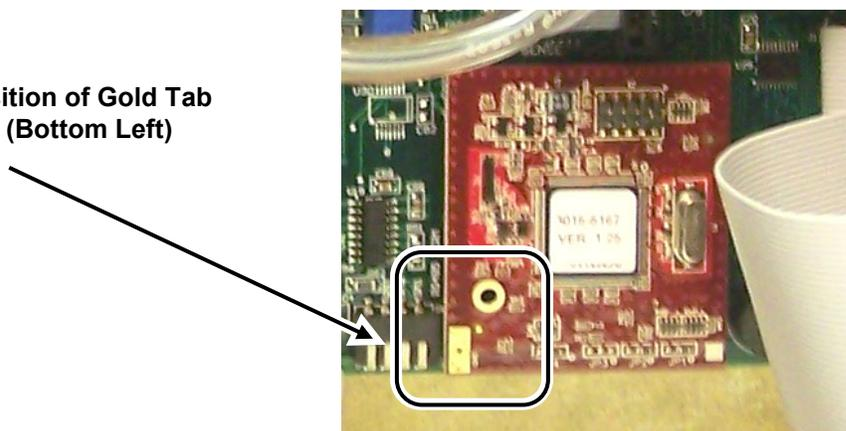

Figure 4. Orientation of Microprocessor Module
3. Note the orientation of the module, specifically the gold tab and hole oriented on the bottom left of the board. Refer to Figure 4.
2. Orient the new microprocessor so the gold tab and hole are at the bottom left corner (refer to Figure 4).